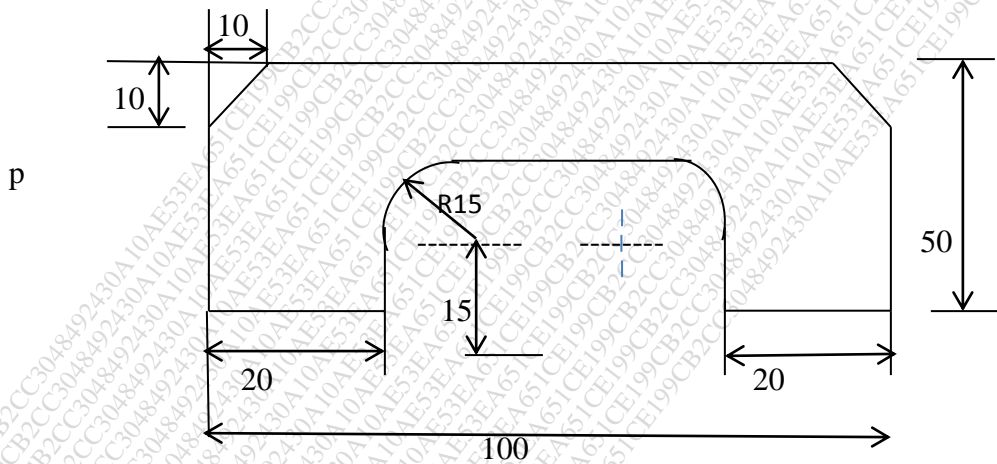

Fig.1
- Q.9 A profile milling operation is to be performed to generate the outline of the part as shown in fig.1. 13